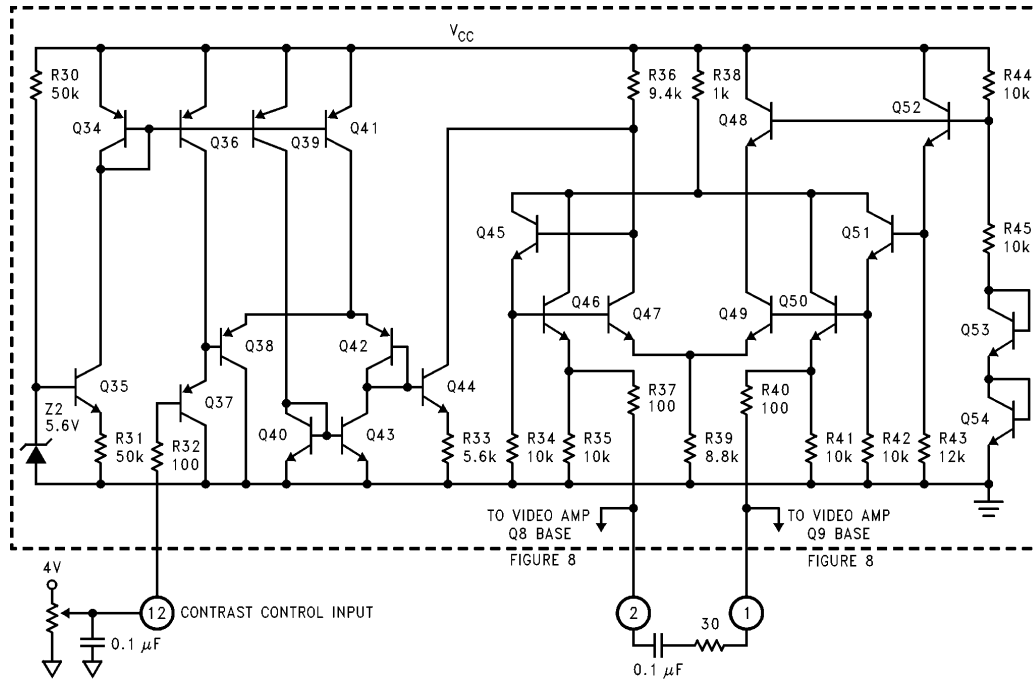
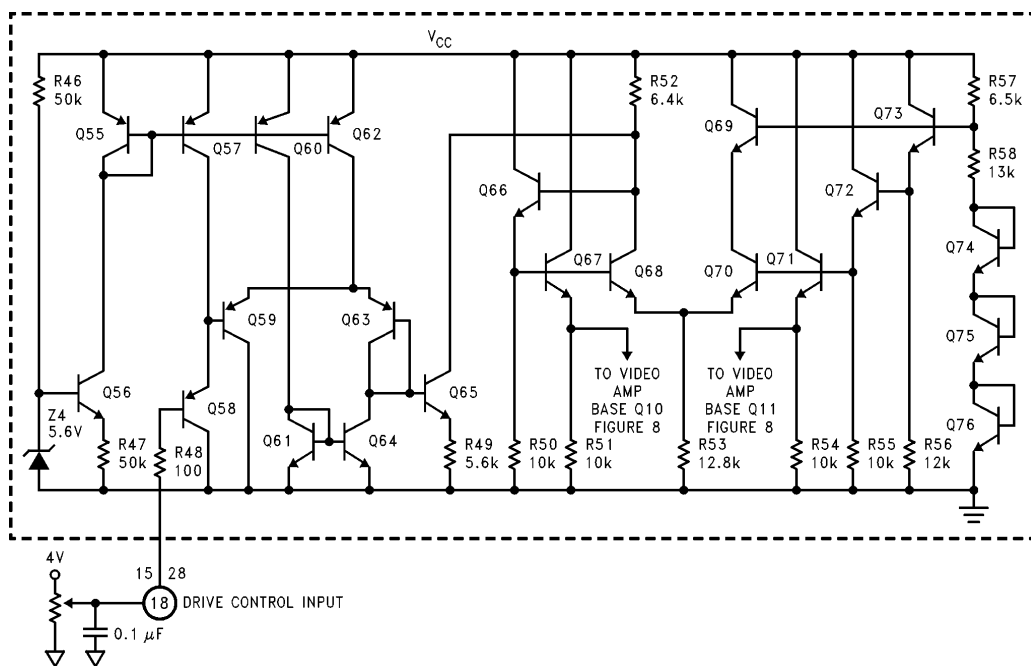

FIGURE 9. Simplified Schematic of LM1205 Contrast Control
FIGURE 10. Simplified Schematic of LM1205 Drive Control
*Figure 9* is a simplified schematic of the Contrast Control circuit. The output of this circuit is common to all three channels. A reference voltage is generated by Z2, Q34, Q35, R30, and R31. Q36, Q39, and Q41 are all current sources that are controlled by the reference voltage. The contrast signal has a 0V to 4V range with its input at pin 12. R32 is used for current limiting any voltage surge that may occur at pin 12. Note that the input stage (Q37, Q38, Q42, and Q44) are all PNP transistors. This configuration is necessary for operation down to near ground. At Q44 the input voltage is converted to a current by R33. The input stage will apply the same voltage across R33 as is applied at the input and with no temperature variations from the transistors. Q37 is connected to a current source (Q36) to keep a constant current flow through Q37 and a predictable diode voltage for the base-emitter of Q37. Q40 is connected as a diode and is biased by the current source Q39. The current through Q40 is mirrored into Q43, giving a current bias for Q42. Again this is done to give a predictable diode voltage for Q42. Q41 is a current source for both Q38 and Q42. With the current through Q42 already established, the rest of the current from Q41 flows through Q38. As one can see the input voltage is accurately reflected across R33 with no temperature coefficients from the input stage of the contrast control circuit.
*Figure 10* is a simplified schematic of the Drive Control circuit. Each channel has its own drive control circuit. This circuit is almost identical to *Figure 9*, the contrast control circuit. It will be easier to cover the differences between the two circuits instead of going through virtually the same circuit description. Note that the input stage is **exactly** the same. The generation of the reference voltage at the right hand side of *Figure 10* is slightly different than the circuit in *Figure 9*. In the drive control circuit the reference voltage at the base of Q72 is to be  $\frac{2}{3}V_{CC}$ . In the contrast control circuit the reference voltage at the base of Q51 was to be  $\frac{1}{2}V_{CC}$ . To generate the  $\frac{2}{3}V_{CC}$  R57 and R58 form a 2 to 1 voltage divider. With the two to one ratio it is now necessary to have three transistors connected as diodes, which are Q74, Q75, and Q76. Q73 is the buffer for this voltage divider and its emitter is exactly  $\frac{2}{3}V_{CC}$  with temperature compensation. R52 and R53 also differ from their corresponding resistors in *Figure 9*, R36 and R39. The value difference is so the base of Q66 is also at  $\frac{2}{3}V_{CC}$  when the input drive voltage is at 2V. R38 in *Figure 9* was needed for current limiting at the output pins. Since each channel has its own drive control circuit no filtering is required, eliminating the need for external pins. With no external pins no current limiting is necessary, thus the 1k resistor is not used in the drive control circuit.